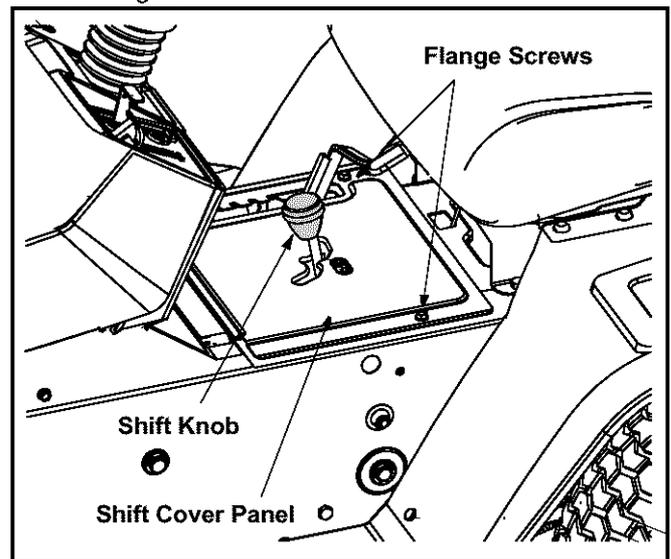

Figure 14
- Unthread the shift knob and remove the two flange screws which secure the shift cover panel in place. See Figure 14.
- Unthread the shift knob and remove the two flange screws which secure the shift cover panel in place. Refer to Figure 14.